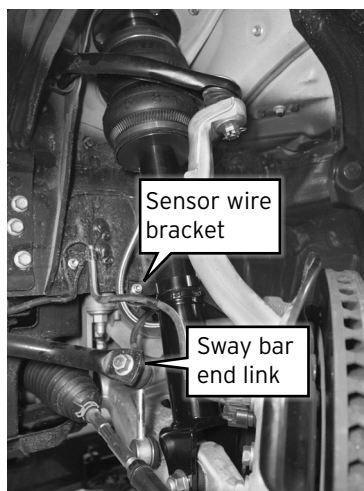

Fig. 9
5. Reconnect the steering knuckle to the upper control arm. Torque the castle nut to 87Nm (64 lb.-ft.). Reinsert the cotter pin (Fig. 9).